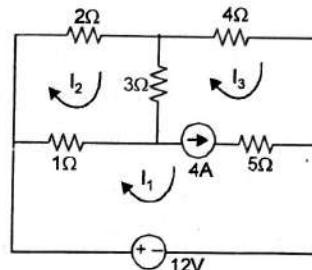

Fig. 5
Q.2. (a) For a network shown in Fig. 5, find all the marked mesh currents.